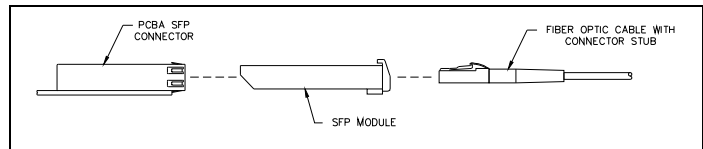

Figure 3. SP2 Fiber Optic Ethernet Connection
9. Insert the SFP transceiver into the SFP receptacle (see Figure 3).
12. Plug the fiber connector into the SFP transceiver (see Figure 3).